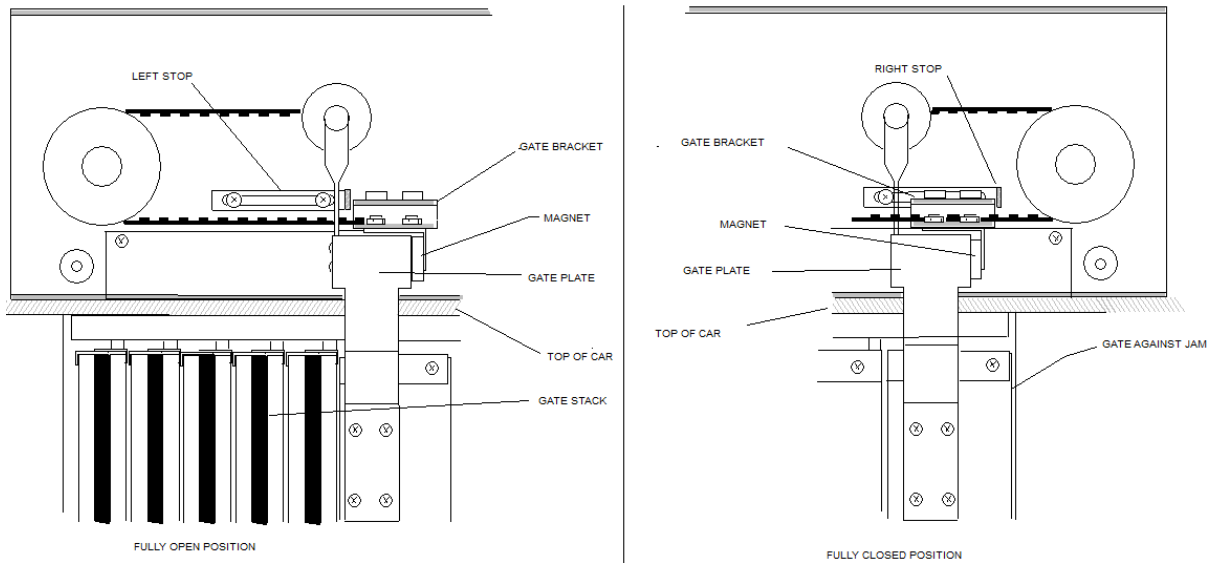

Figure 6 – Right Hand Operator
7. With the Gate Bracket flush against the STOP as in Figure 6 – Right Hand Operator (Fully Closed Position). Check that the Gate is flush against the jam of the entry to the car. If not, adjust the Gate Operator assembly until the Gate is flush.
11. Adjust the LEFT STOP so it is against the GATE PLATE as shown in Figure 6 – Right Hand Operator (Fully Open Position).